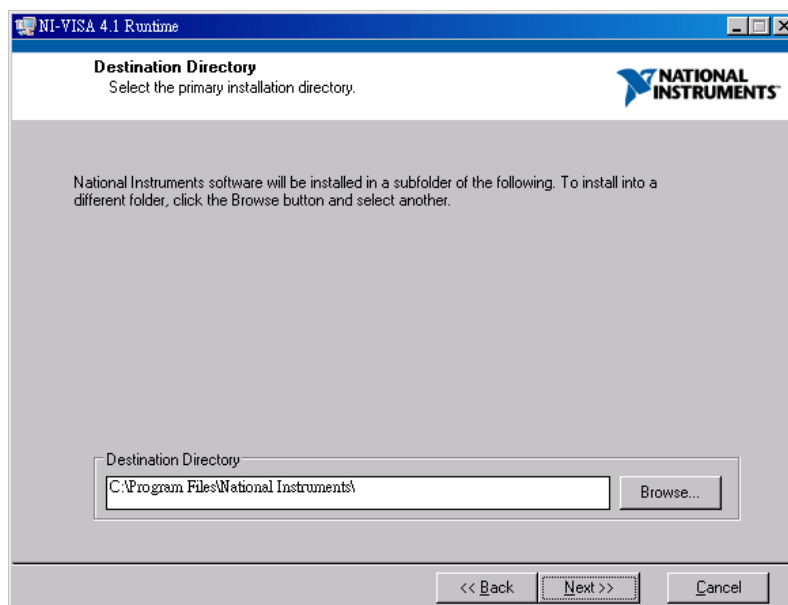

Figure 2-10 Destination Directory Installation Screen
2. Other applications under executing should be ended firstly, next to click **Next** to start installing. Enter the next installation procedure for users to decide installation directory, the installation screen is as *Figure 2-10*.